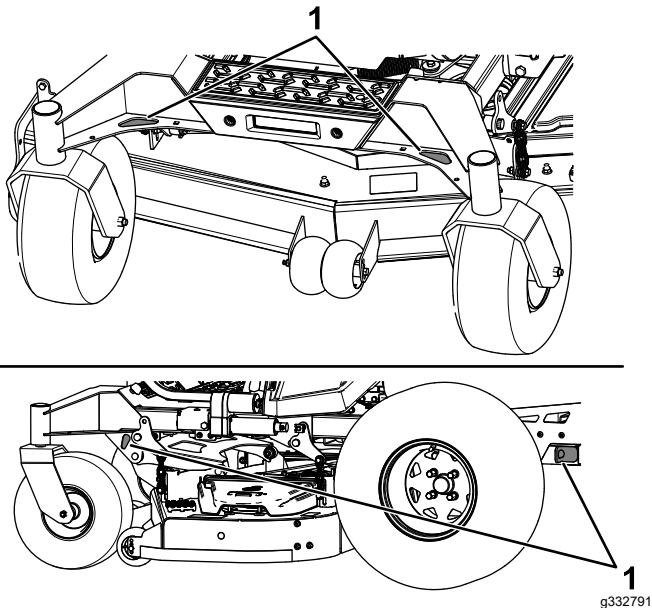

**Figure 47**
6. Tie down the machine near the front caster wheels and the rear frame with straps, chains, cable, or ropes (Figure 47). Refer to local regulations for tie-down requirements.